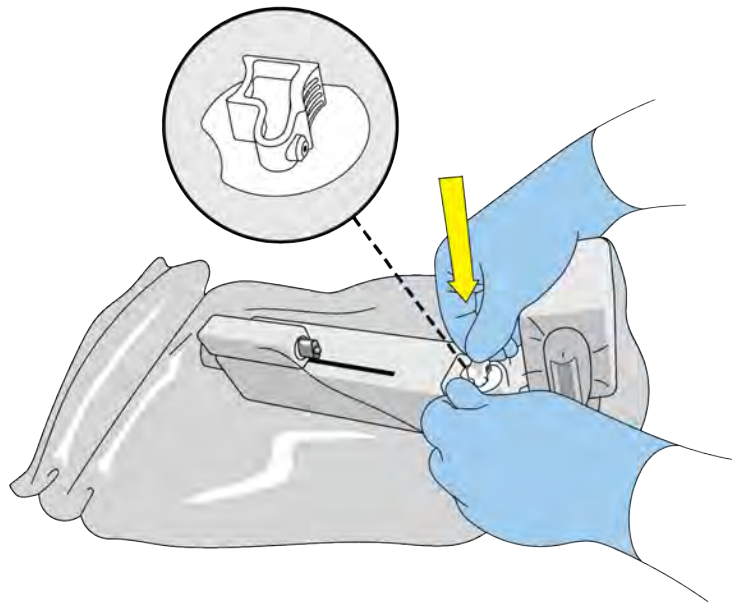

Figure 16. Integrated Needle Guide Attachment
10. Connect magnetic Integrated Needle Guide to CERTA Access Device in the orientation shown in Figure 16.